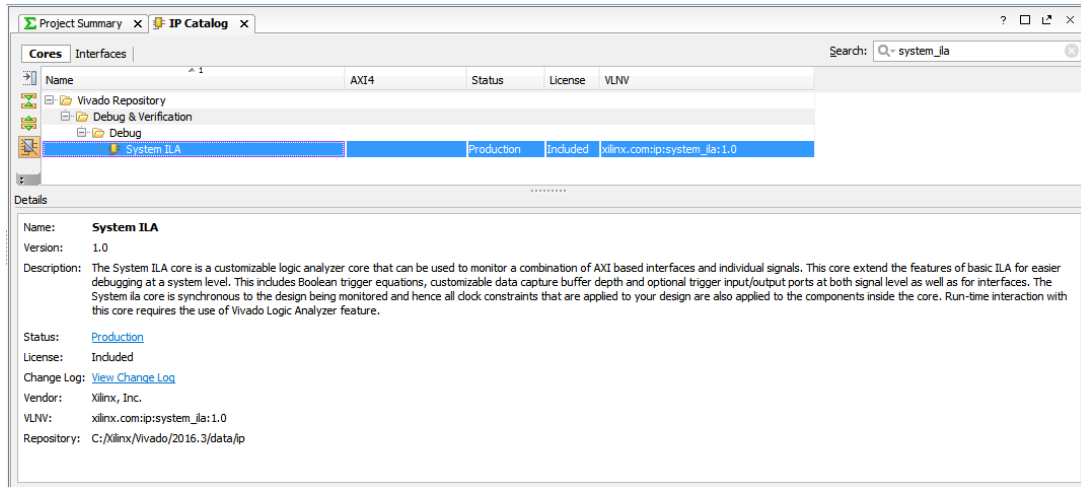

Figure 4-1: System ILA Core in Vivado IP Catalog
2. Add the **System ILA** IP from Vivado IPI catalog. (See Figure 4-1.)